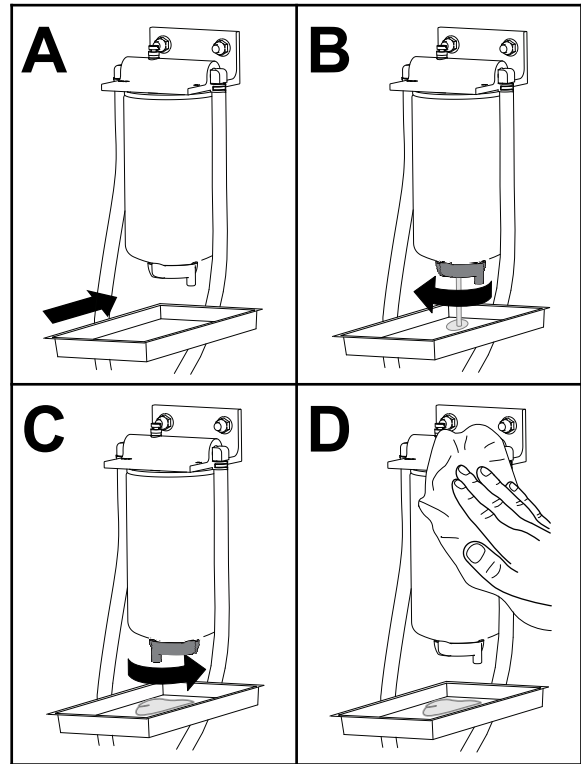

**Figure 61**
3. Remove the drain plug and allow the fuel to drain (Figure 61).
6. Install the drain plug and torque it to 17.5 to 19.3 N·m (155 to 171 in-lb); refer to Figure 61.